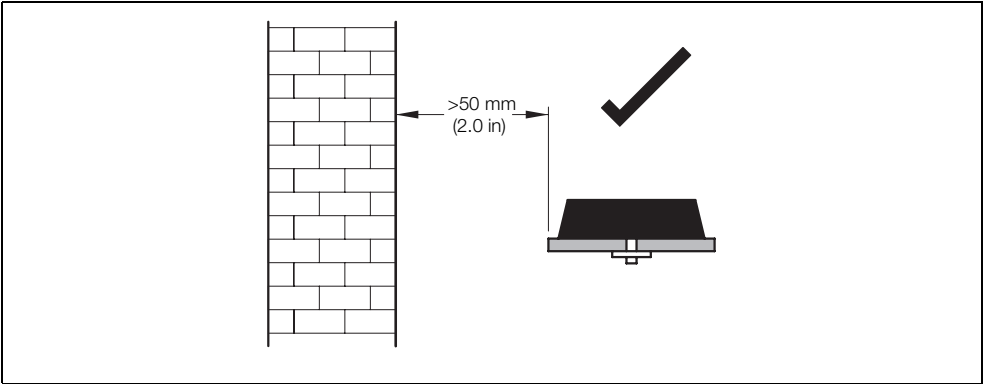

Fig. 2.21 GSM Antenna Installation
- Do not mount the antenna closer than 50 mm to any solid wall or surface – see Fig. 2.21.